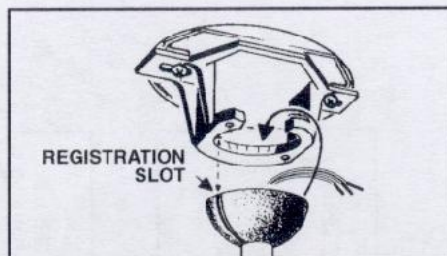

FIG. 10
**Step 7.** Now lift motor assembly into position and place downrod ball into hanger bracket. Rotate until the check groove has dropped into the registration slot and seats firmly. Rod should not rotate if this is done correctly. (Fig. 10)